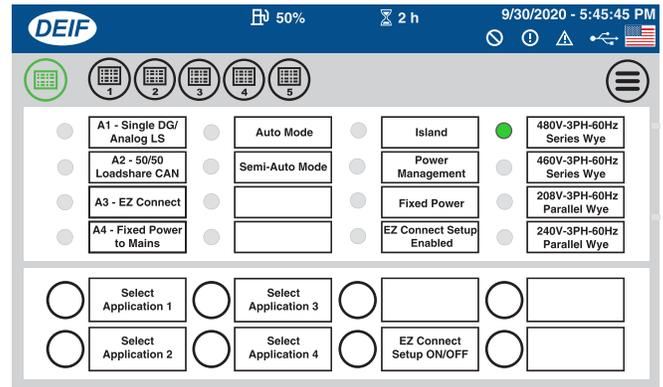
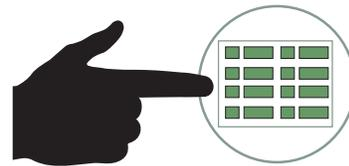
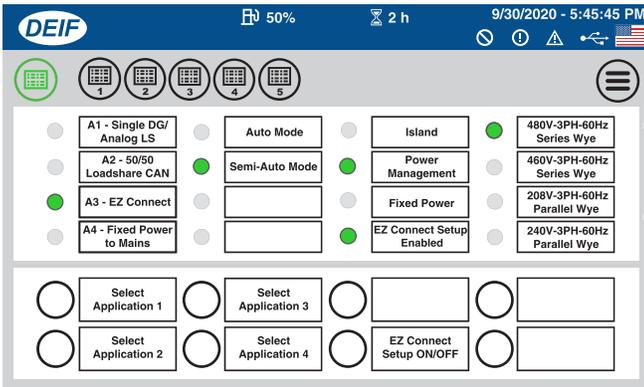

Figure 118. Main AOP Screen
Figure 119. Main AOP Button
Figure 135. Main AOP Screen
- Verify that the **Main AOP screen** (Figure 118) is displayed.
- If the Main AOP screen (Figure 118) is not displayed, press the **Main AOP button** (Figure 119).
21. Verify that the **Main AOP screen** (Figure 135) is displayed. If the Main AOP screen is not displayed, press the **Main AOP button** (Figure 119).
- 22. Verify that the **Power Management status indicator** (Figure 135) is **ON (GREEN)**.